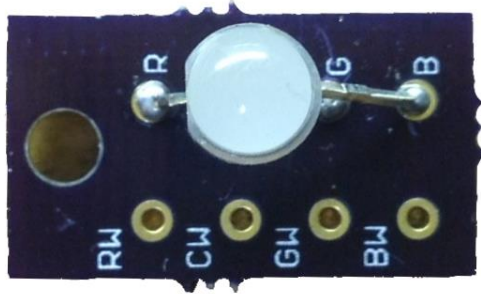

Figure 5.1
1. With the letters on the PCB facing up, install the RGB LED with its flat side closest to the hole in the PCB in the holes labeled without the “W”. (Figure 5.1)